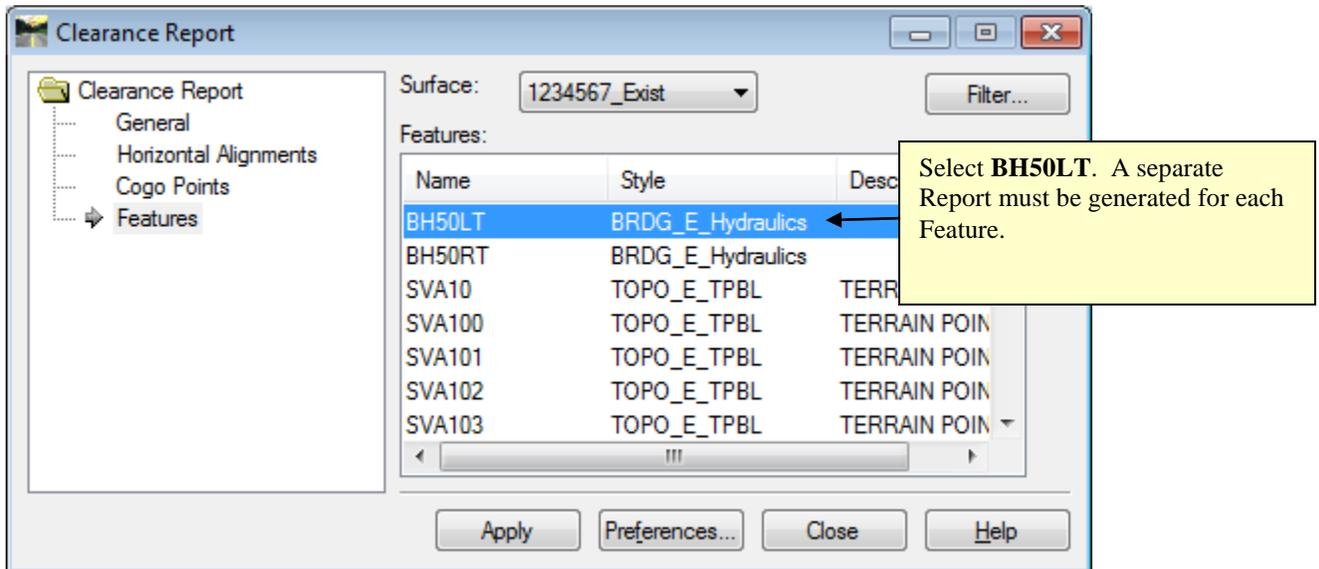

Figure L3-20 Clearance Report
- Select the **Features** leaf and match the settings shown in *Figure L3-20*.